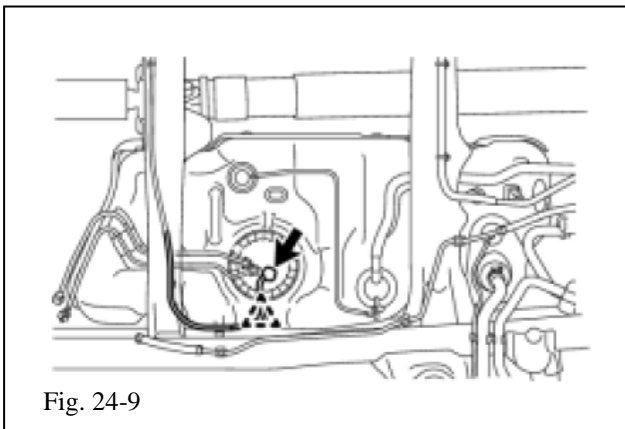

Fig. 24-9
- ⚠ (m) Slowly lower the fuel tank and disconnect the fuel pump connector (Fig. 24-9).